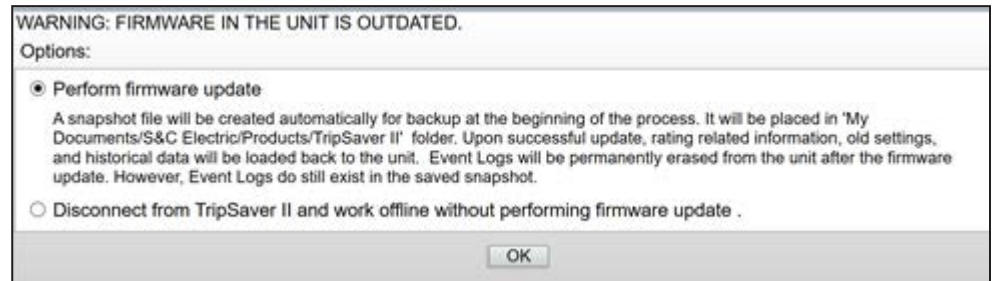

Figure 53. The firmware update Warning dialog box.
STEP 4. Select the **Tools>Firmware Update** option from the **Main** menu, or click on the **Firmware Update** icon in the quick access toolbar. If the firmware is out of date, a dialog box will appear. See Figure 53.